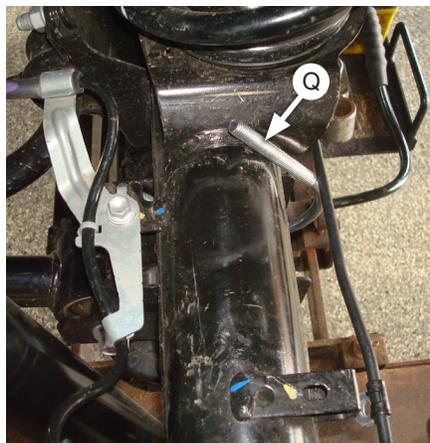

Fig. 12
8. From the back side of the driver's (left) side axle, insert the lower axle U-bolt (Q) over the axle, just outboard of the lower spring seat (Fig. 12), through the small hole in the lower control arm bracket (Fig. 13), and rotate it so that the threaded portion is pointing up (Fig. 14).